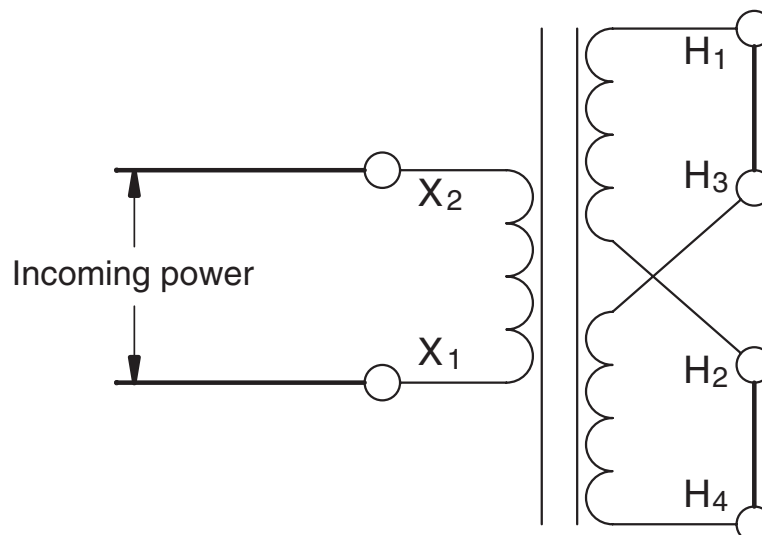

Figure 19-12 The transformer has a turns-ratio of 1:2.
17. Disconnect the lead between terminals H_2 and H_3 . Reconnect the transformer so that the high-voltage windings are connected in parallel by connecting H_1 and H_3 together and H_2 and H_4 together as shown in Figure 19-12. Do not disconnect the power leads to terminals X_1 and X_2 . The transformer now has a turns-ratio of 1:2.